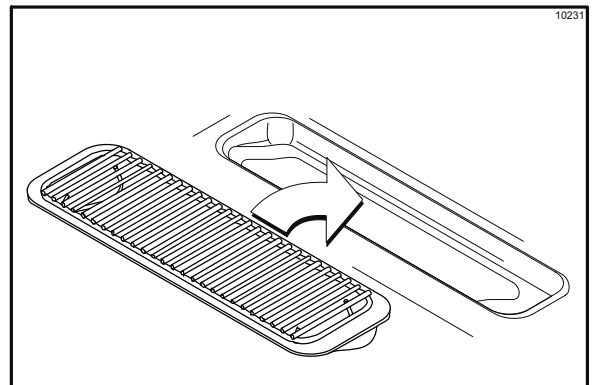

Figure 6-31
2. Install the front drip tray and splash shield under the door spout(s). (See Figure 6-31.)